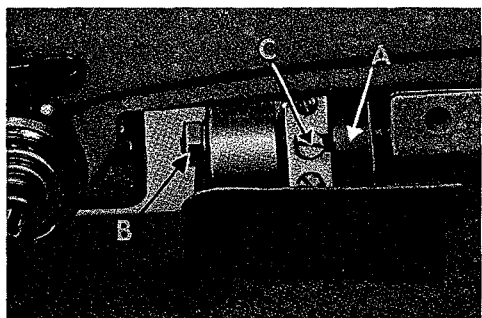

Fig. 29
If this is not so, turn the handwheel in the operating direction to a point where the puller roller starts to revolve. Loosen the two set screws holding the puller drive shaft head (A, Fig. 29), hold the puller drive shaft head in place and turn the handwheel until the tips of the feed dog teeth are flush with the top of the throat plate at the beginning of the feeding cycle. Retighten set screws, making sure that all end play is removed from the puller drive shaft.
This adjustment is accomplished by loosening lock nut (B, Fig. 29) (it has a left hand thread) on the end of the puller regulating stud. Turn screw (C) clockwise to decrease the puller roller travel or counterclockwise to increase the puller roller travel. Retighten lock nut (B).